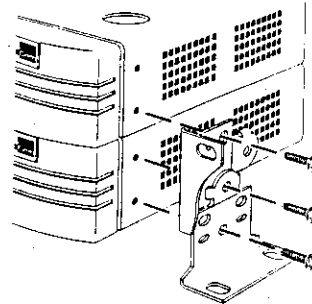

Figure 2 Wall Mounting Two Units
- 2 Locate two mounting brackets over the mounting holes on one side of the units, as shown in Figure 2 below.